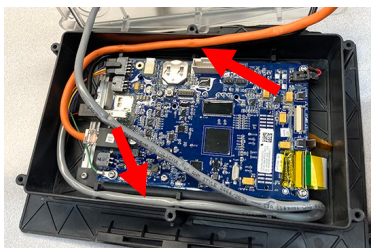

Figure 13
15. Carefully push the cables back down into their locations and into the retainers (see Figures 13 and 14).